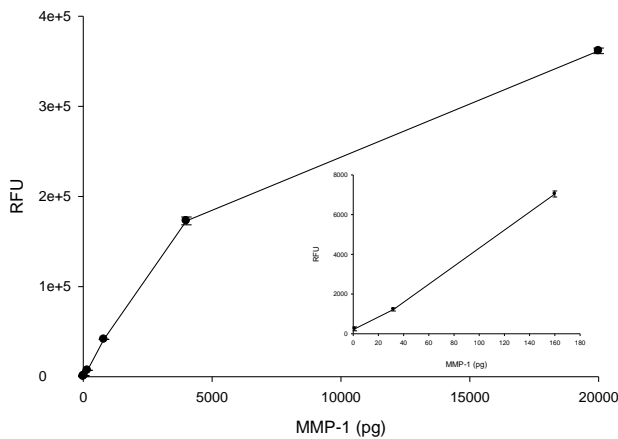

Figure 2. Sensitivity of the SensoLyte Plus® 520 MMP-1 assay.
- Determine the slope of the linear portion of the data plot. Obtain the reaction velocity (V) in RFU/min or RFU/sec.
- Plot data as RFU versus concentration of MMP (Figure 2).